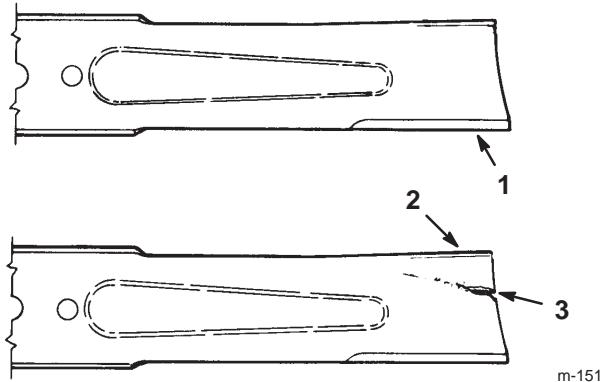

Figure 28
1. Inspect the cutting edges (Fig. 28). If the edges are not sharp or have nicks, remove the blade and sharpen them; refer to Sharpening the Blade on page 28.
2. Inspect the blade, especially the curved area (Fig. 28). If you notice any damage, wear, or a slot forming in this area (Fig. 28), immediately install a new blade.